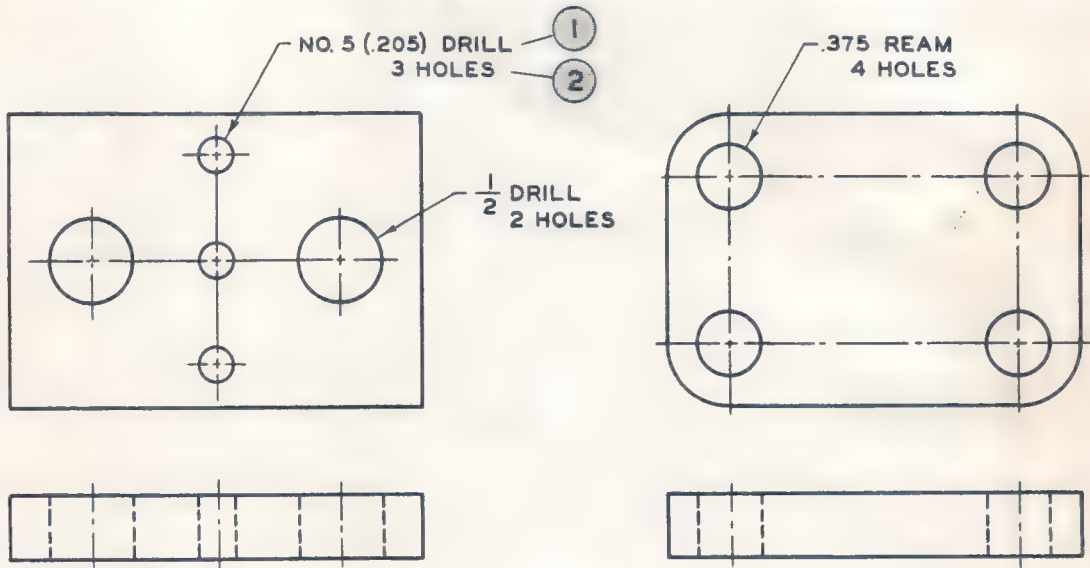

FIG. 49 DIMENSIONING HOLES
The diameters of holes which are to be formed by drilling, reaming or punching should have the diameter, preferably on a leader, followed by a note indicating ① the operation to be performed and ② the number of holes to be produced (Fig. 49).